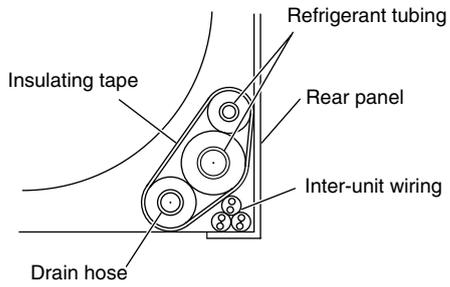

Fig. 3-31
- (2) After performing a leak test, wrap the refrigerant tubing and drain hose together with insulating tape (Fig. 3-31). Then fit the tubing into the tubing storage space in the rear of the indoor unit and clamp in place.
- (3) Adjust the indoor unit so that it is securely mounted on the rear panel.